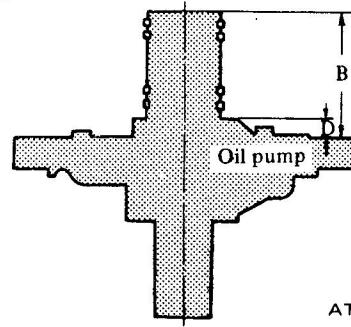

Fig. AT-76 Measuring the distance "B" and "D"
- (2) Measure the distance "B" and "D" of oil pump cover as shown in Figure AT-76.